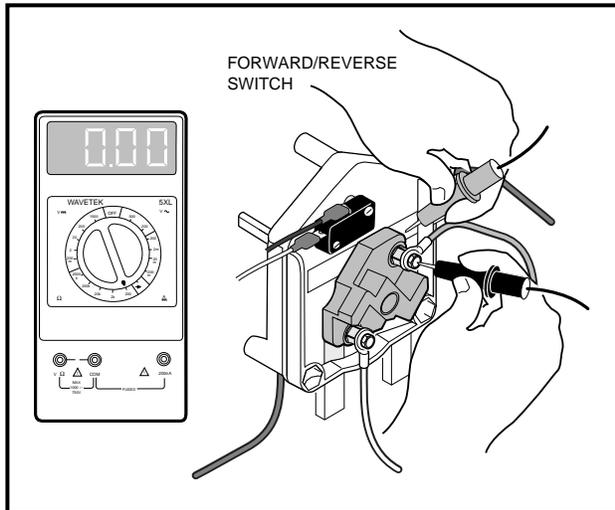

Figure 11-12 F&R Switch Test - Step 1.1
- 1.1. With the F&R switch in the FORWARD position, place the red (+) probe on the *common* terminal lug of the switch (with brown wire attached), and place the black (-) probe on the movable contact (with the purple wire attached) on the forward and reverse rotor (**Figure 11-12, Page 11-11**). The reading should be continuity.